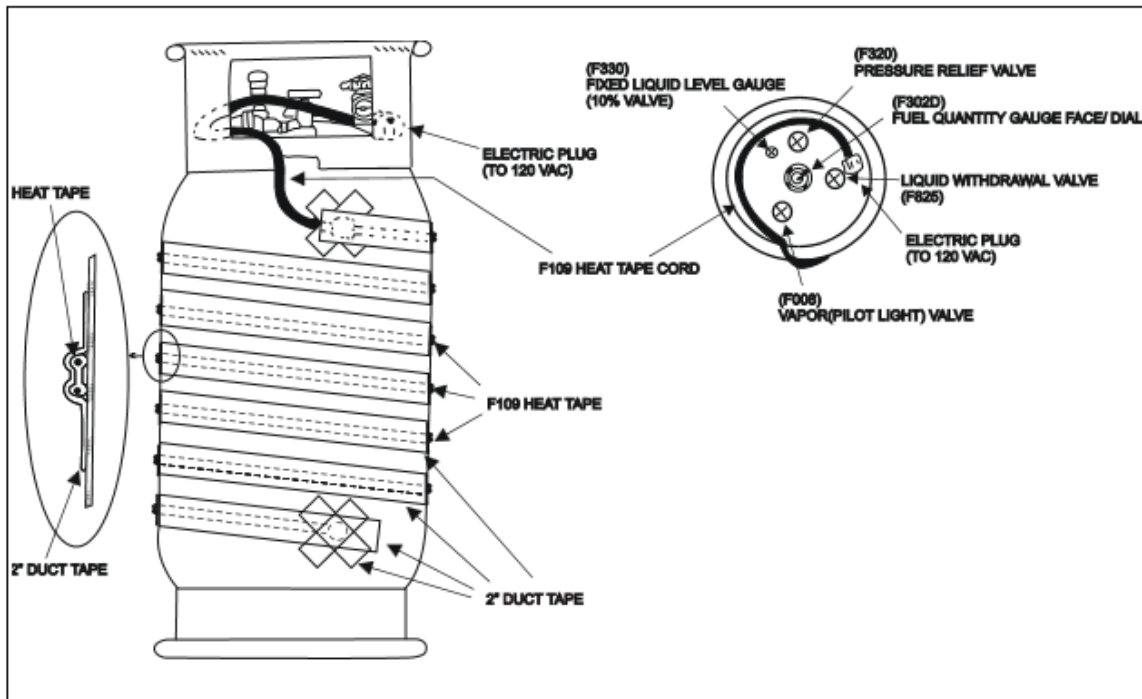

FIG. 6.38
- 2) Use 2-inch wide duct tape. Tape the plastic connector block between the power cord and the flat heat tape to the tank in the position shown in the FIG. 6.38 above.
- 6) Lay the electric power cord inside the tank collar as shown in FIG. 6.38.